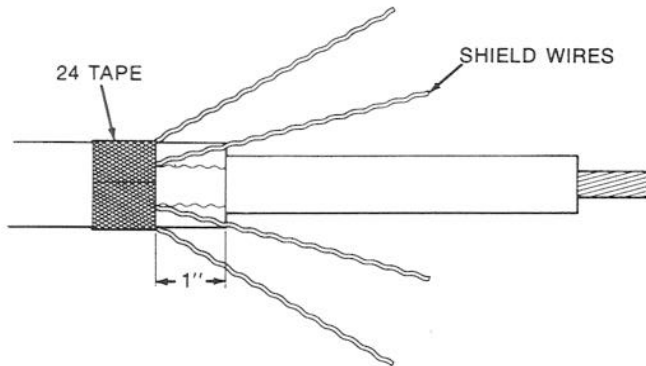

Figure 4
1. Pull wires out of jacket for distance of one inch. Figure 4.
2. Wrap two full wraps of Scotch 24 Shielding Tape at edge of pull out as shown in Figure 4.